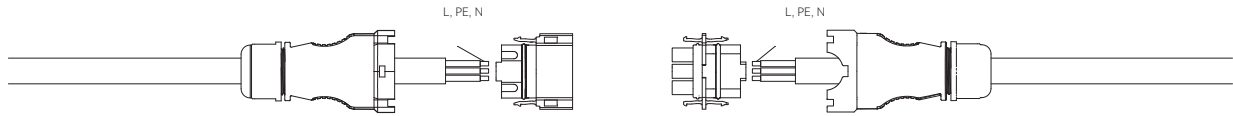

Figure 2.2
b) Insert the cable slot into the cover and ensure that the L, N, and PE wires are in their correct positions, then tighten the screws. As shown in Figure 2.2.